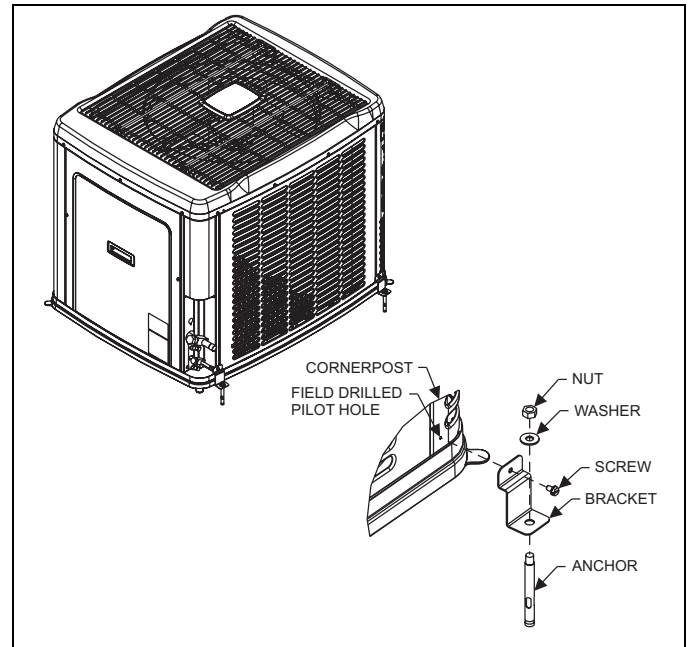

FIGURE 1: Bracket Assembly
1. Set the clips against the unit as shown in Figure 1. The clip should sit flush on the concrete, go up and over the base pan and rest flush against the corner post. Using a marker of some sort, mark where the holes need to be drilled on the concrete pad. Remove clips.
5. Using the existing hole in the bracket as a guide, drill a hole into the sheet metal corner post using a drill and a 1/8" drill bit. See Figure 1 for location. Attach to corner posts with the provided sheet metal screws.